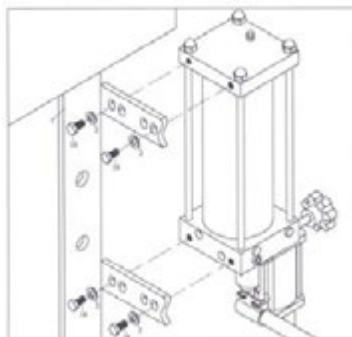

Figure 4
- Move the Pump Assembly (34) to the outside of the leg, use bolt (18) and Washer (washer) to reconnect the pump assembly and tighten. (figure 4)